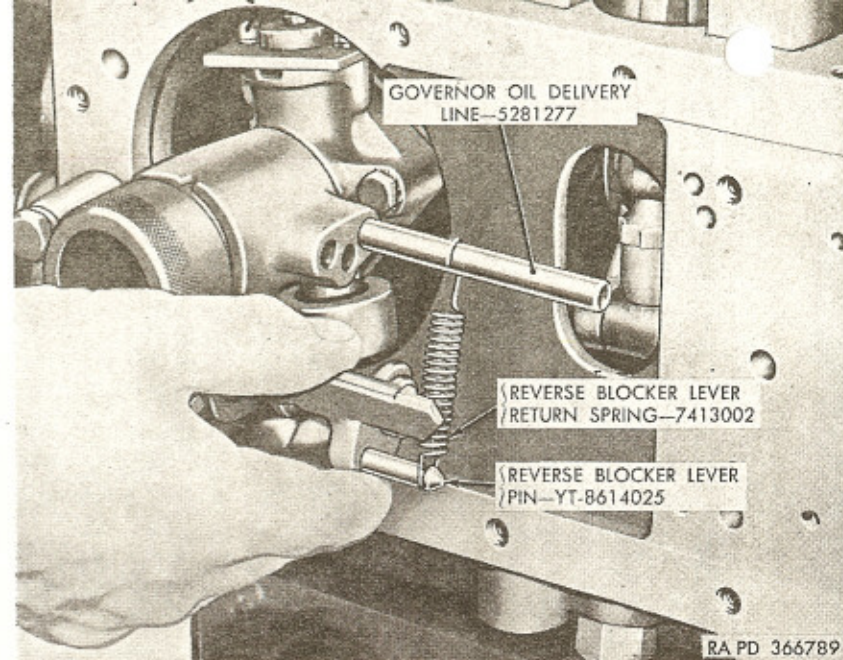

Figure 206. Reverse blocker lever return spring installed.
a. Install one governor oil delivery line into inner bore of reverse blocker bracket as shown in figure 206. Referring to figure 35, install reverse clutch oil pipe into transmission case.
b. Position reverse blocker lever return spring over governor oil delivery line; then hook other end of spring over reverse blocker lever pin (fig. 206).
Note. Hook of spring must be installed over governor oil delivery line (fig. 206).